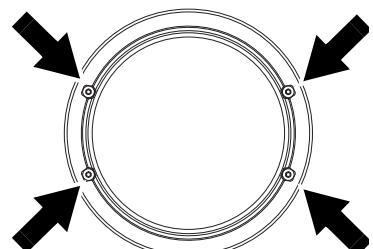

Figure 2
4. See Figure 2. Release the four screws from the front lens assembly, then release the front lens safety attachment. Remove the front lens assembly and store it for possible re-use if the fixture is returned to standard configuration at a later time.